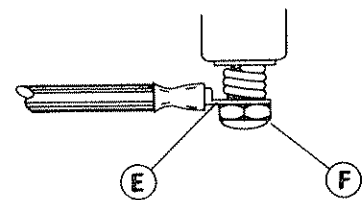

Fig. 2
WIND WIRE AROUND CONNECTOR BOLT (B) 3½ TO 4 TURNS. INSTALL TERMINAL LUG (E) OF ANTENNA LEAD AND SECURE WITH LOCK NUT (F), AS SHOWN IN FIG. 2